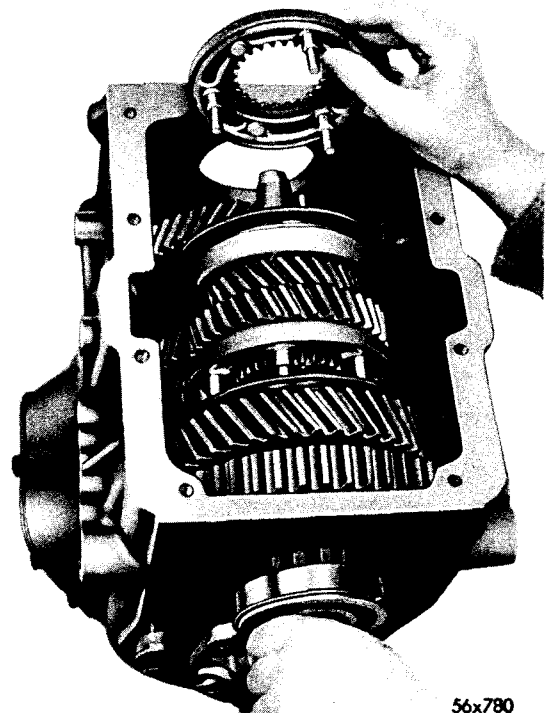

Fig. 11 — Removing 4th - 5th Speed Synchronizer Stop Rings
Place transmission in stand, Tool DD-1014. Drain lubricant. Use a screw driver (or install gearshift lever), inserted into gearshift lever opening and shift transmission into 2nd speed. Remove transmission cover screws. Note location of alignment screws (2) (Fig. 8). Alignment screws use split type lockwashers. Remove transmission cover by lifting upward while carefully rotating housing counter-clockwise, as shown in Figure 11.
Place transmission in 2nd gear. Rotate 2nd-3rd speed synchronizer unit until pins are aligned (Fig. 17). Move reverse idler gear assembly forward, then, position housing above case, as shown in Figure 11.